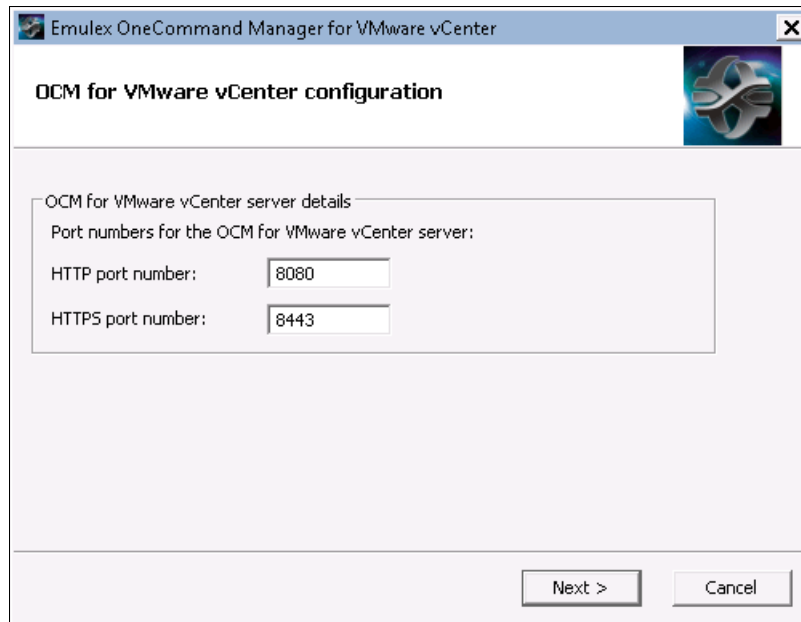

Figure 7-40 Port numbers for the OCM for VMware vCenter
- In the OCM for VMware vCenter configuration panel (Figure 7-40), select the port numbers that you want to use for OneCommand Manager. If you want remote clients to use this plug-in, find the ports that are not in use and ensure that your firewall allows these ports.